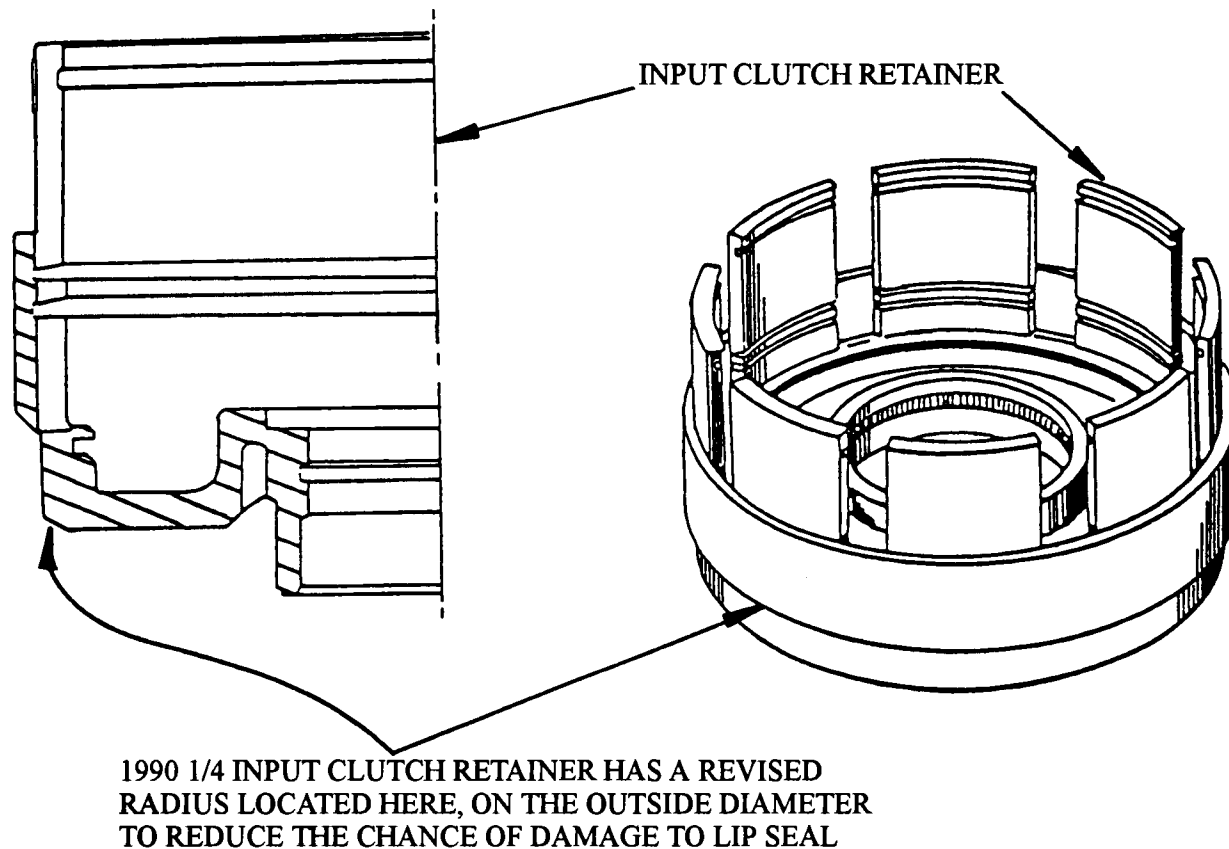

Figure 37
- (3) **INPUT CLUTCH RETAINER** - The new Input Clutch Retainer has a new radius on the outside diameter, to reduce the chance of damage to the lip seal during assembly (See Figure 37). This retainer has no identification marks, and is tough to identify visually. The OEM part number did not change.